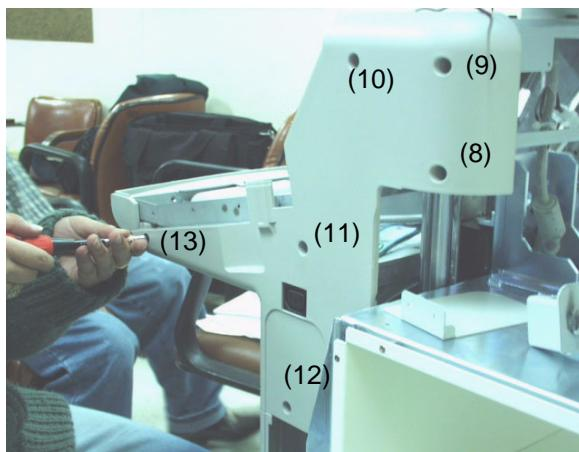

Figure 8-56 Removing the OP Side R Cover
- 8.) Unscrew six (6) screws (8-13) and remove the OP Side R Cover. Figure 8-56.